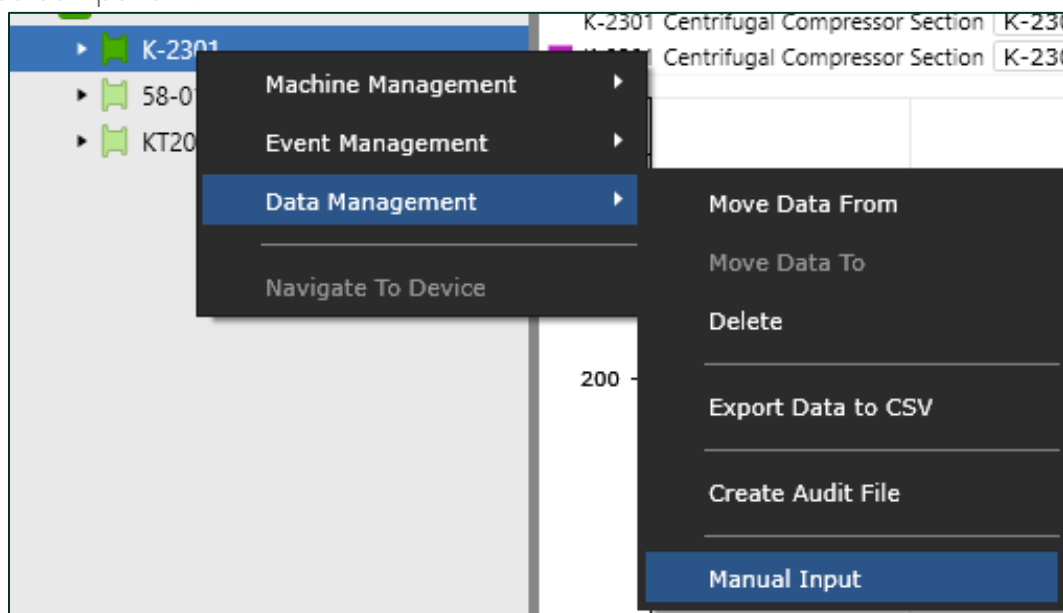

Figure 27: Launching Manual Input Dialog from Display Hierarchy
1. Right-click on a component in the hierarchy and select "Data Management > Manual Input" (Figure 27). This will launch the Manual Input dialog, filtered to the list of tags that reside at or below the selected component.